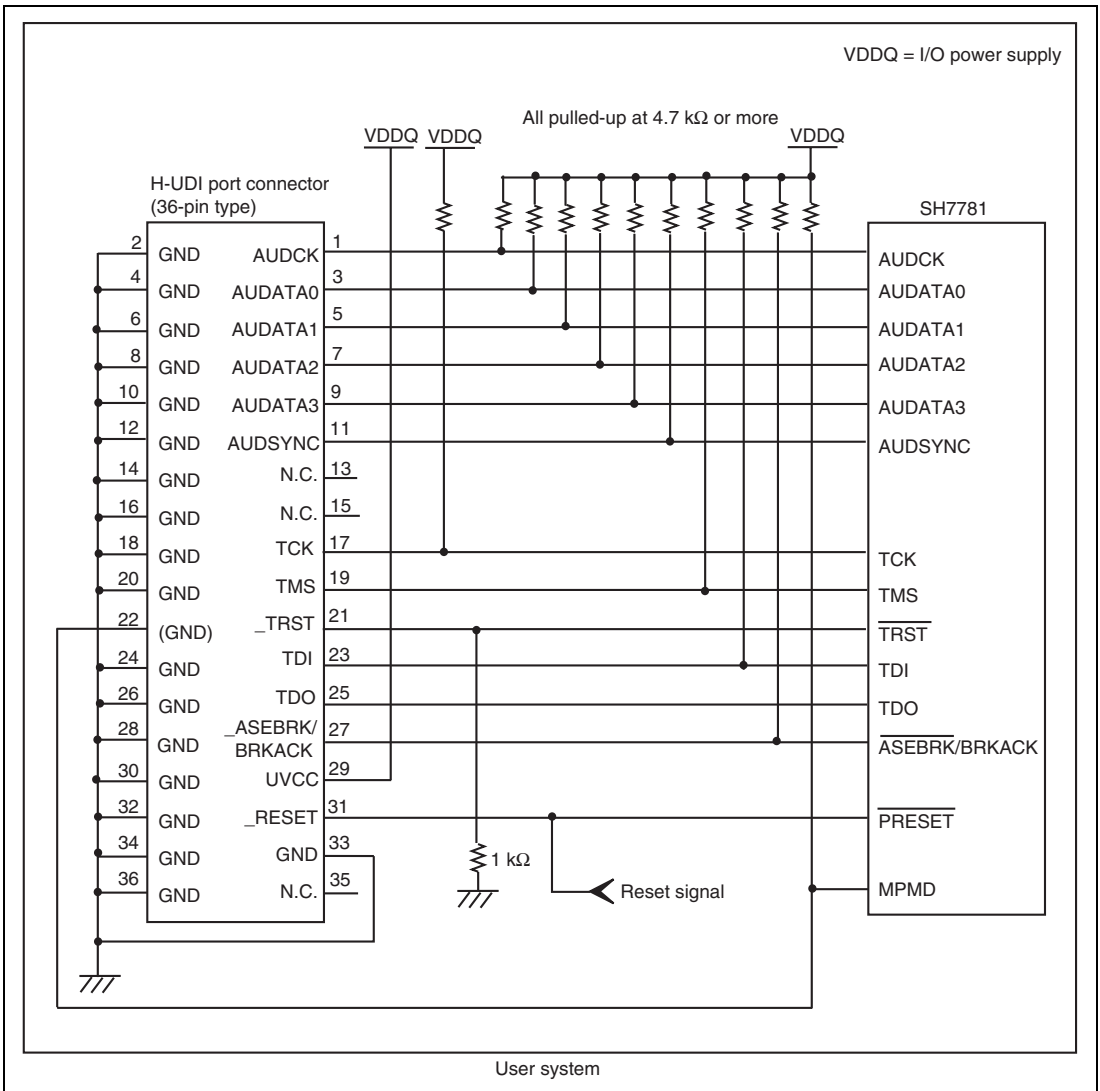

Figure 1.3 Recommended Circuit for Connection between the H-UDI Port Connector and MPU when the Emulator is in Use (36-Pin Type)
Figure 1.3 shows a recommended circuit for connection between the H-UDI and AUD port connectors (36 pins) and the MPU when the emulator is in use.
- (1) When the emulator is used: $MPMD = 0$
- (2) When the emulator is not used: $MPMD = 1$Figure 1.3 shows an example of circuits that allow the MPMD pin to be GND (0) whenever the emulator is connected by using the user system interface cable. When the MPMD pin is changed by switches, etc., ground pin 22. Do not connect this pin to the MPMD pin.
7. The resistance values shown in figure 1.3 are for reference.
When the circuit is connected as shown in figure 1.3, the switches of the emulator are set as SW2 = 1 and SW3 = 1. For details, refer to section 3.8, Setting the DIP Switches, in the SuperH™ Family E10A-USB Emulator User's Manual.